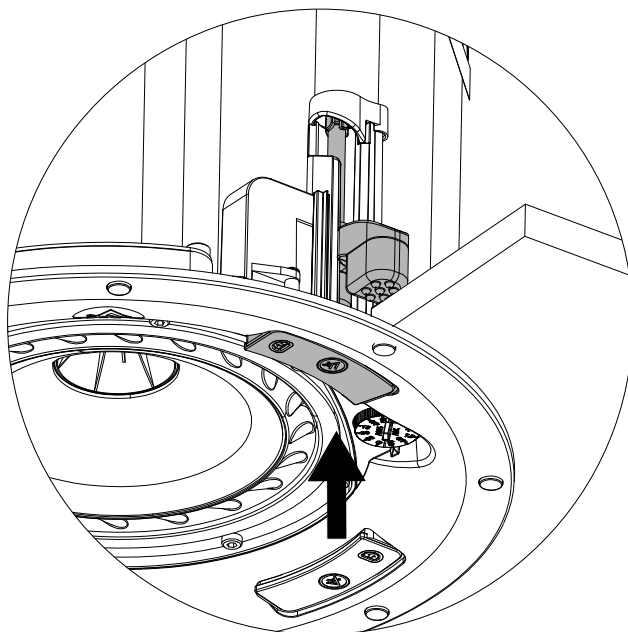

Figure 13
- Push the "T-handle" upwards and align with the locking tab on the handle, placing it back to its default starting position (Figure 13).